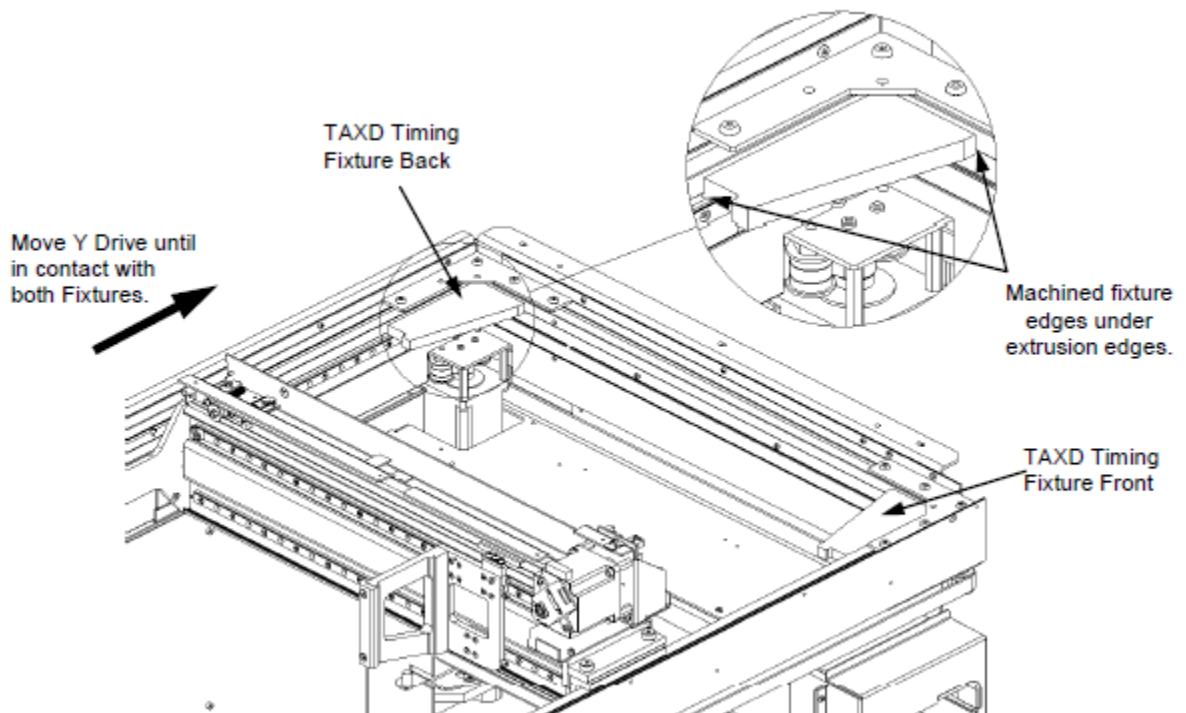

Figure X-28; Moving Y Drive
10. Move the Y Drive until it is in contact with both fixture parts (Figure X-28). While holding in place, retighten the fine adjustment screws. Move the Y Drive away from the fixtures to remove.